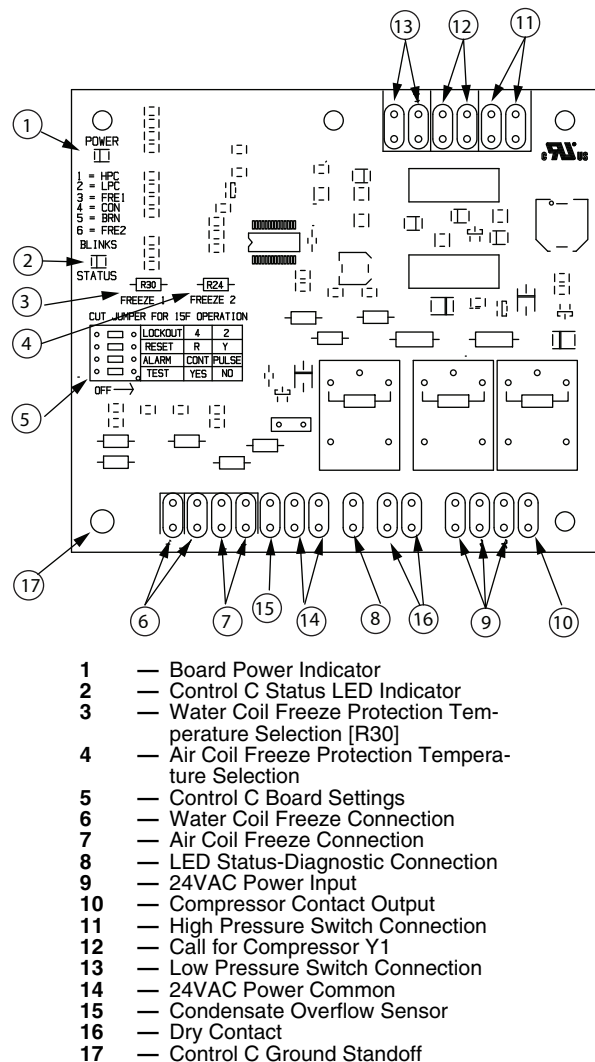
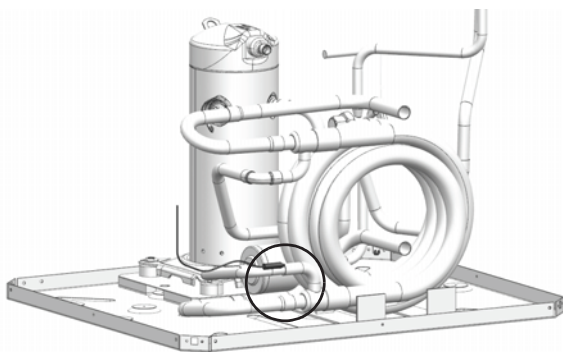

Fig. 19 — Complete C Control Board
Fig. 20 — Water Freeze Protection Sensor Location
If the unit is being connected to a thermostat with a malfunction light, this connection is made at the unit malfunction output or relay. See to Fig. 19.
- Complete C Board Dry Contacts are Normally Open (NO).
- Water side freeze protection sensor, mounted close to condensing water coil, monitors refrigerant temperature between condensing water coil and thermal expansion valve. See Fig. 20. If temperature drops below or remains at freeze limit trip for 30 seconds, the controller will shut down the compressor and enter into a soft lock-out condition. The default freeze limit trip is 30 F, however this can be changed to 15 F by cutting the R30 or Freeze1 resistor located on top of DIP switch SW1. Refer to Fig. 19 item 3 for resistor location.